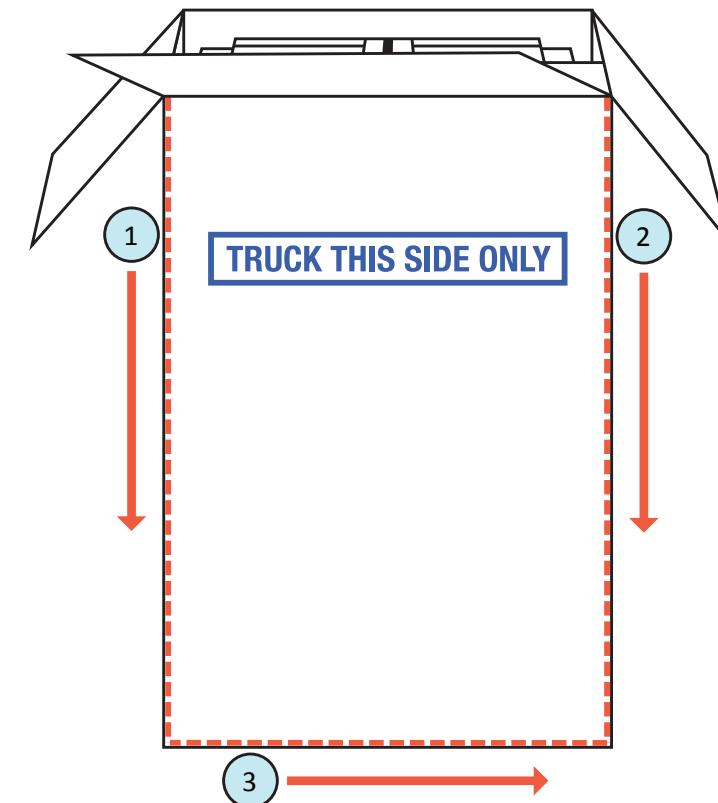

Figure A3b. Removing the "TRUCK THIS SIDE ONLY" side of the carton.
- 2) Using a utility knife, remove the "TRUCK THIS SIDE ONLY" side of the shipping carton (see figure A3b). Carefully cut down the left and right sides of the box. Let the flap fall to the floor, then cut across the bottom edge (taking care not to damage the floor).